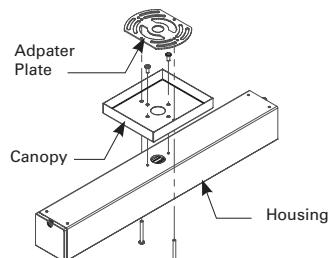

Figure 7
- For wall or ceiling mount, attach the canopy over the hole in the center of the housing using the screws used to hold the hanger bar brackets (See Figure 7).
- Secure the canopy to the junction box using the adapter plate and screws provided (See Figure 7/8). The adapter plate is designed to be connected to a NEMA standard 3.5" round, 4" round, 3.5" octagon, 4" octagon, or handy (single gang) box. However, it is possible to connect the adapter plate to other electrical boxes with some modification.